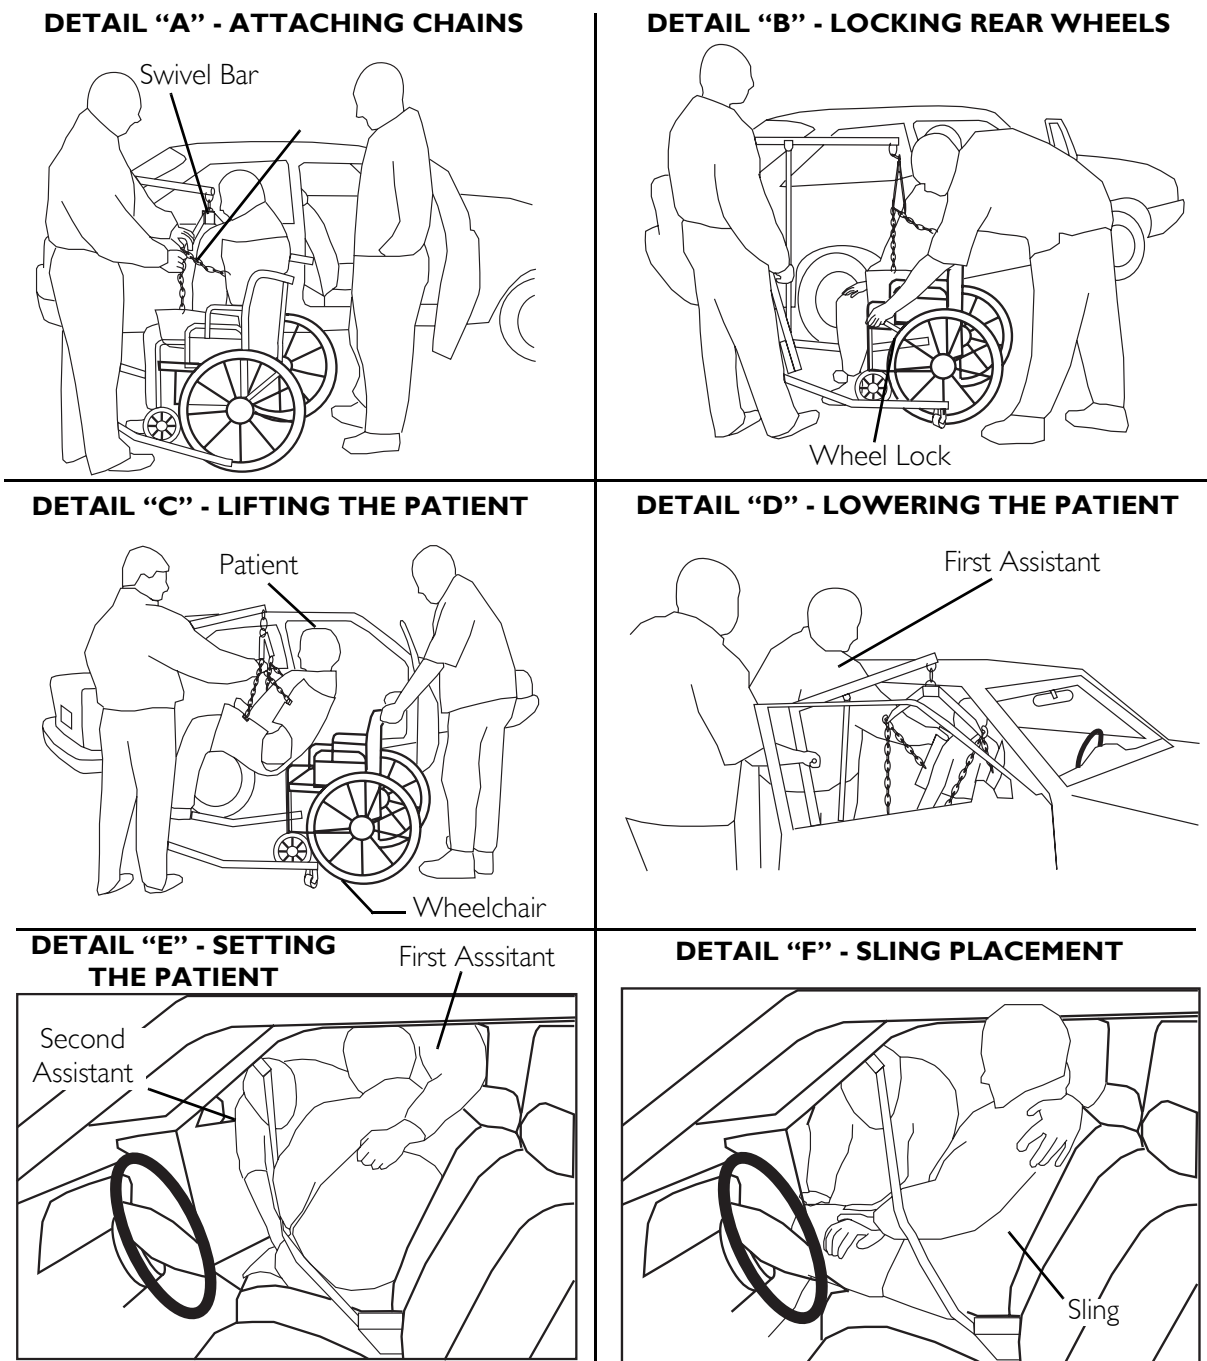

FIGURE 10.2 Transferring to a Car
NOTE: For this procedure, refer to FIGURE 10.2 on page 38.
1. Attach the chains or straps to swivel bar (Detail "A" of FIGURE 10.2).
2. Lock the rear wheels to further prevent movement of the chair (Detail "B" of FIGURE 10.2).
3. Lift the patient from the wheelchair (Detail "C" of FIGURE 10.2).
7. As the boom is being lowered, the first assistant is not only pushing but turning the patient so he/she is positioned facing the front of the car (Detail "D" of FIGURE 10.2).
8. While one assistant is holding the patient, the other assistant removes the chains or straps from the swivel bar and slides the patient lift out of the way (Detail "E" of FIGURE 10.2).
NOTE: The sling may be left under the patient or removed (Detail "F" of FIGURE 10.2).